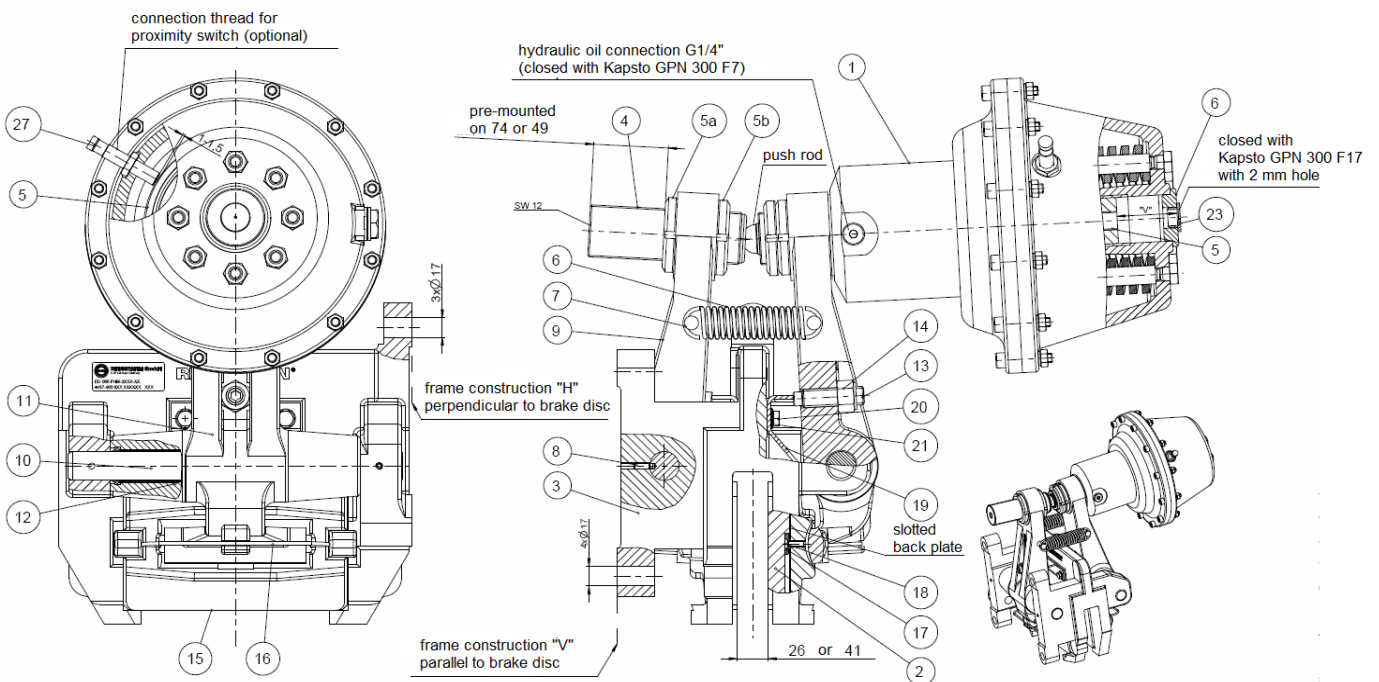

Fig. 3.1
- the DU 060 FHM, brake chamber mounted on the right (see Fig. 3.1 in Section 3).
Remove the plastic protecting cap (Fig. 3.1, pos. 23).
Turn the screw into the thread from the spring plate (Fig. 3.1, pos. 5) until the brake is open.
- Turn the two M16 threaded pins (Fig. 3.1 pos. 13) counter-clockwise, approx 2 revolutions.
- Loosen the groove nut (Fig. 3.1, pos. 5b) and turn it back in the direction of the end of the support bolt.
- Set the total gap between the two brake pads and the brake disc with the aid of the groove nut (Fig. 3.1, pos. 5a).
- Turn the groove nut (Fig. 3.1, pos. 5b) in place and tighten both groove nuts firmly.
In the support bolt (Fig. 3.1, pos. 4) is in the face a hexagon socket SW 12. With a corresponding hexagon key can the support bolts be kept.